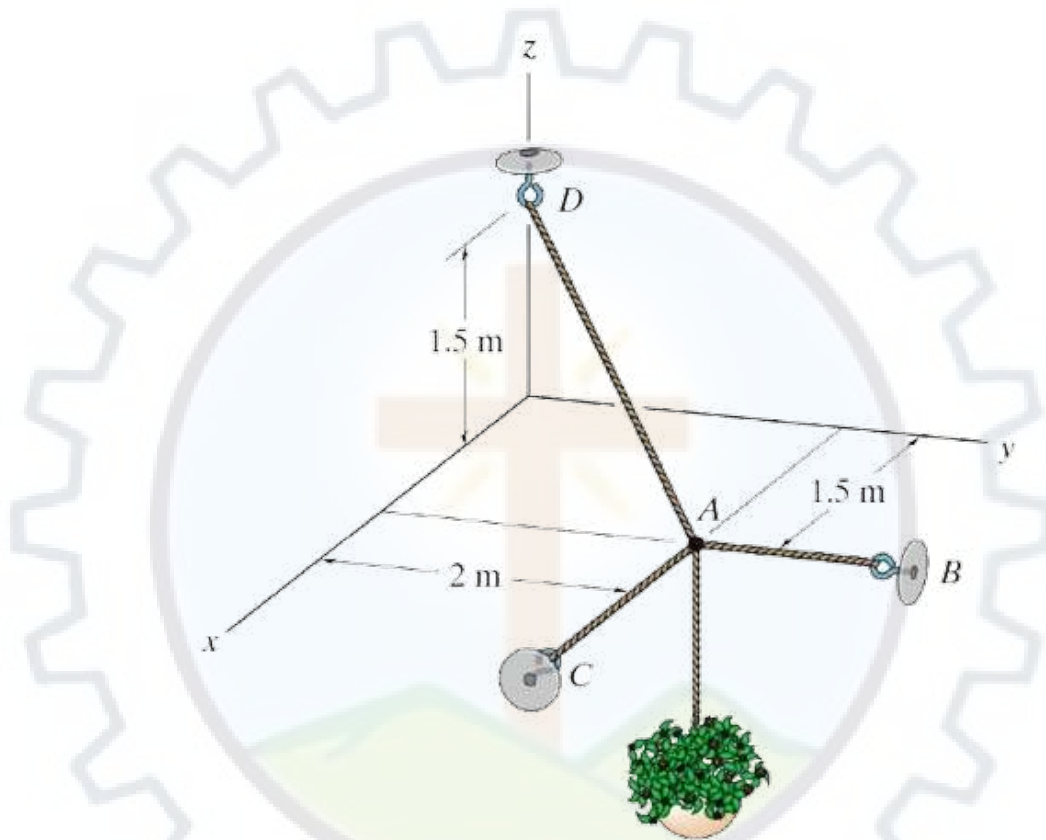

Figure 6
1. The three cables are used to support the 40kg flowerpot as shown in Figure 6. Determine the force developed in each cable for equilibrium.